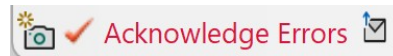

Figure 24: Bottom menu with “Record Dump” (left) and “Create Report” (right) button
In order to trigger a *TAM Snapshot* manually, a *Dump Event* event has to be triggered, which can be done by clicking on the camera symbol depicted in Figure 24 or by pressing F7.
1. Generate a Report. This can be done by clicking the “Create Report” button shown in Figure 24.